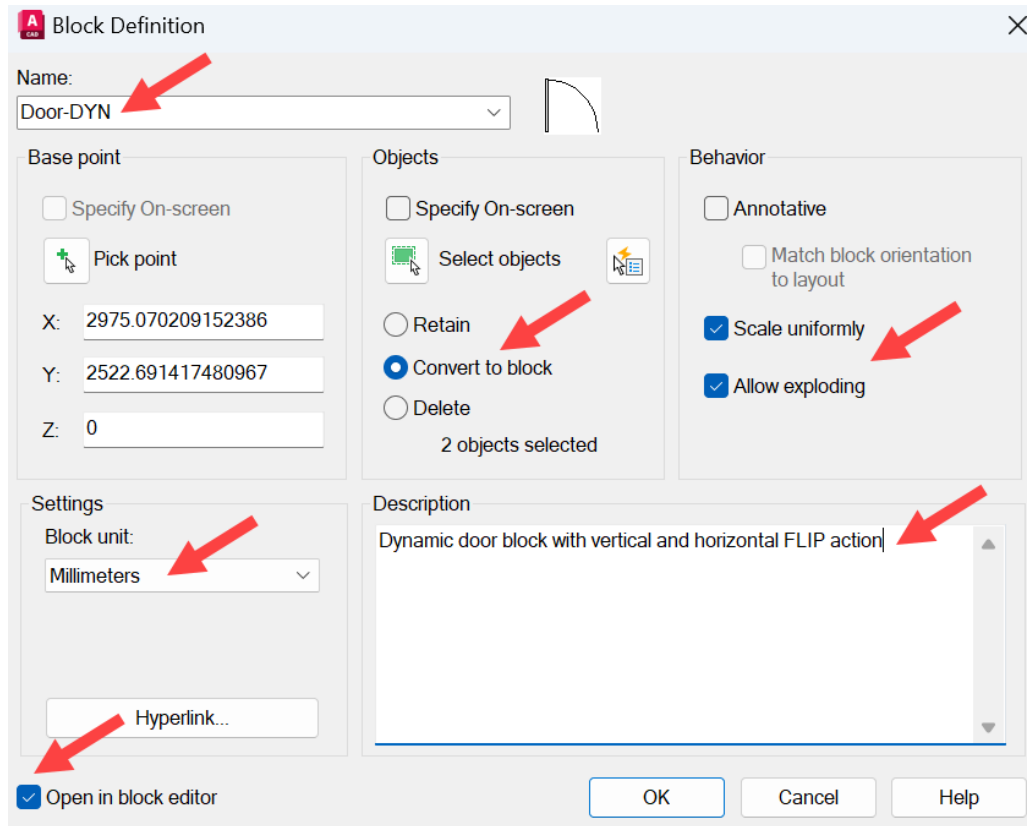

Figure 11.5: The Block Definition dialog box with all required settings
6. Refer to *Figure 11.5* and set all the necessary settings shown.